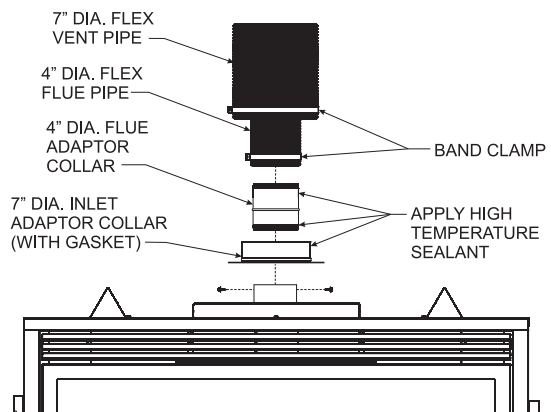

Figure 52
10. Apply sealant to the outside of the flue pipe adapter and connect to the flex flue pipe. Then insert the adapter into the fireplace flue. Secure flue adapter to the fireplace flue with a minimum of two screws provided. **See Figure 52.**